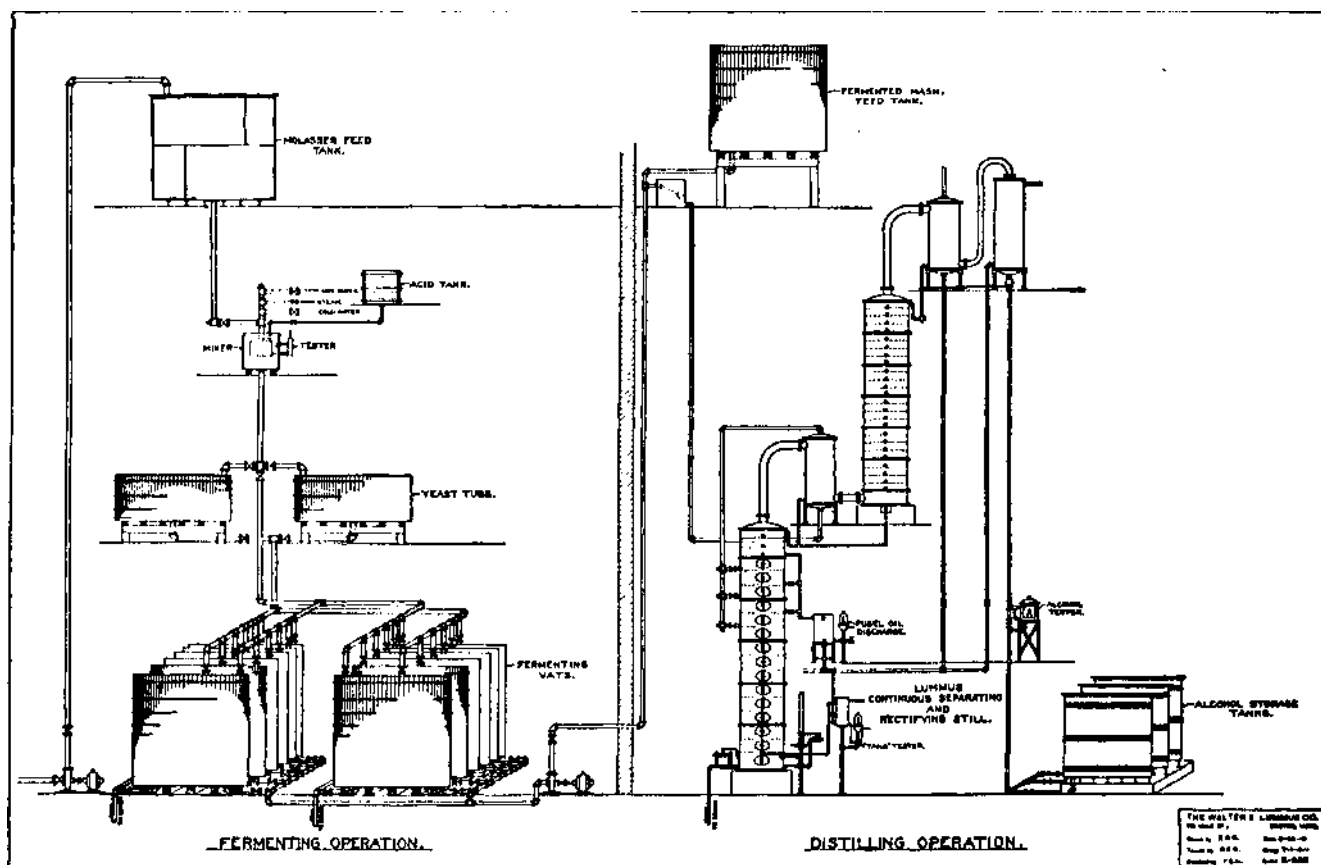

Fig. 33.—Alcohol Manufacture.
19. Give the purpose of each labeled part of Fig. 33.